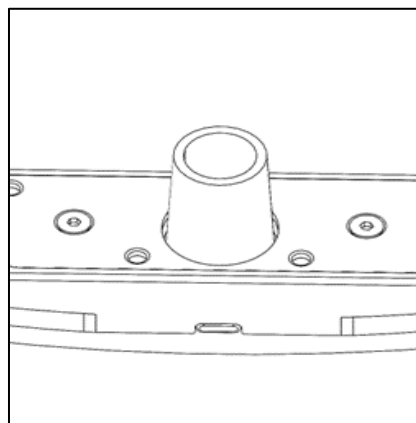

FIGURE 10-17
4. Using the hose, clean the trap (Fig. 10-17) under a stream of running water. check that the trap is free of debris after cleaning.